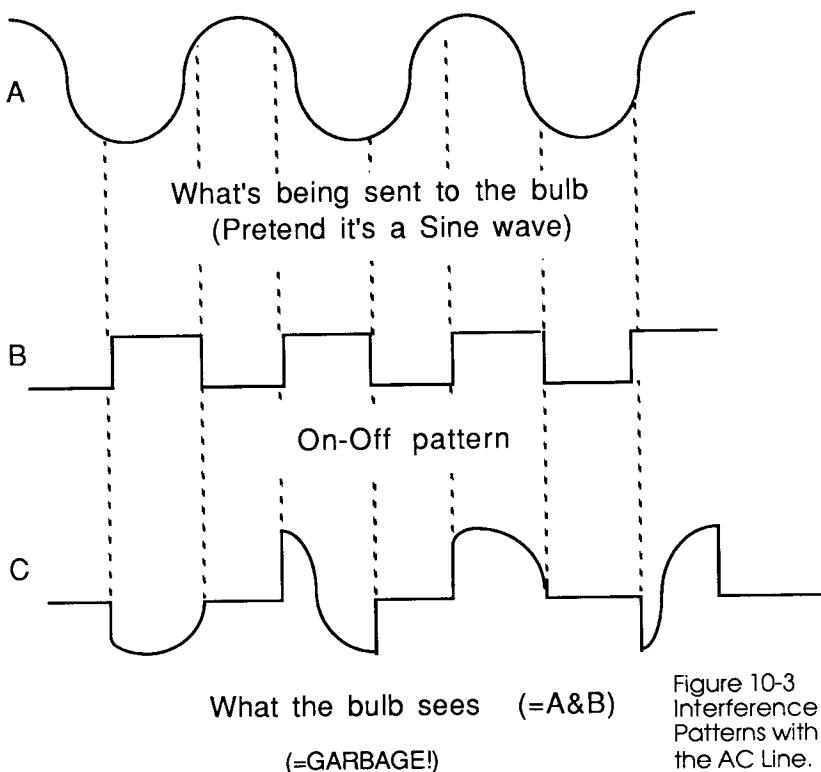

Figure 10-3
Controlling an alternating current (AC) lamp is a bit more complicated. (No pun intended.) For example, let's take the previous timing diagram and apply it to an incandescent bulb, as shown in Figure 10-3.